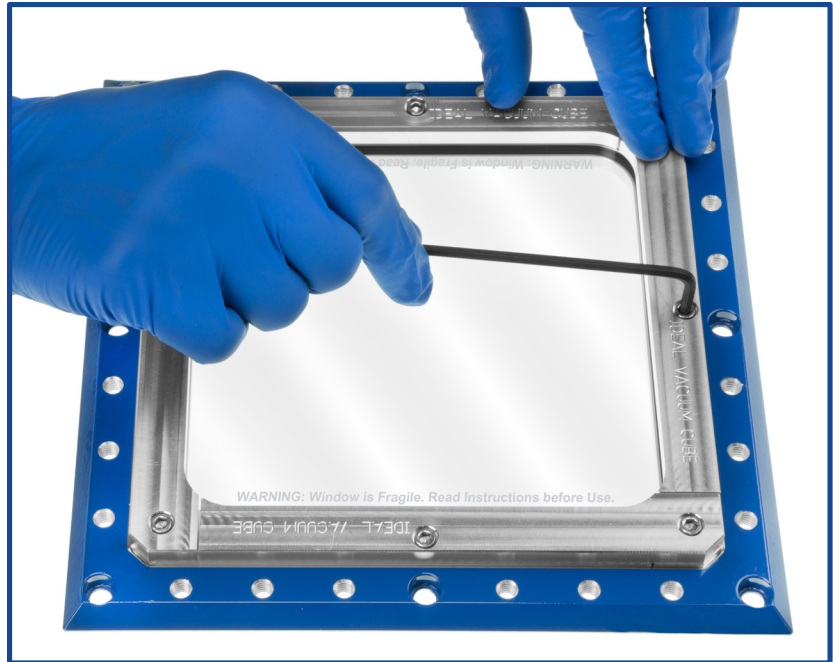

Figure 16 - Tighten bolts until snug
4. Use the 9/64" hex wrench to begin tightening the hold-down bolts (Figure 16).